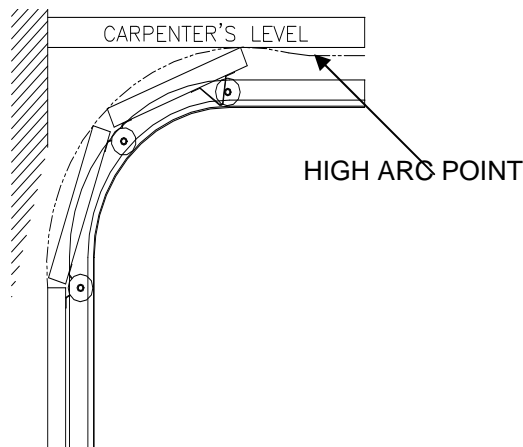

Figure 7 Highest arc of travel
6. Open the door manually to determine the high arc (highest point) of door travel (see Figure 7). Using a carpenter's level draw a line so that it will intersect with the vertical line determined earlier.